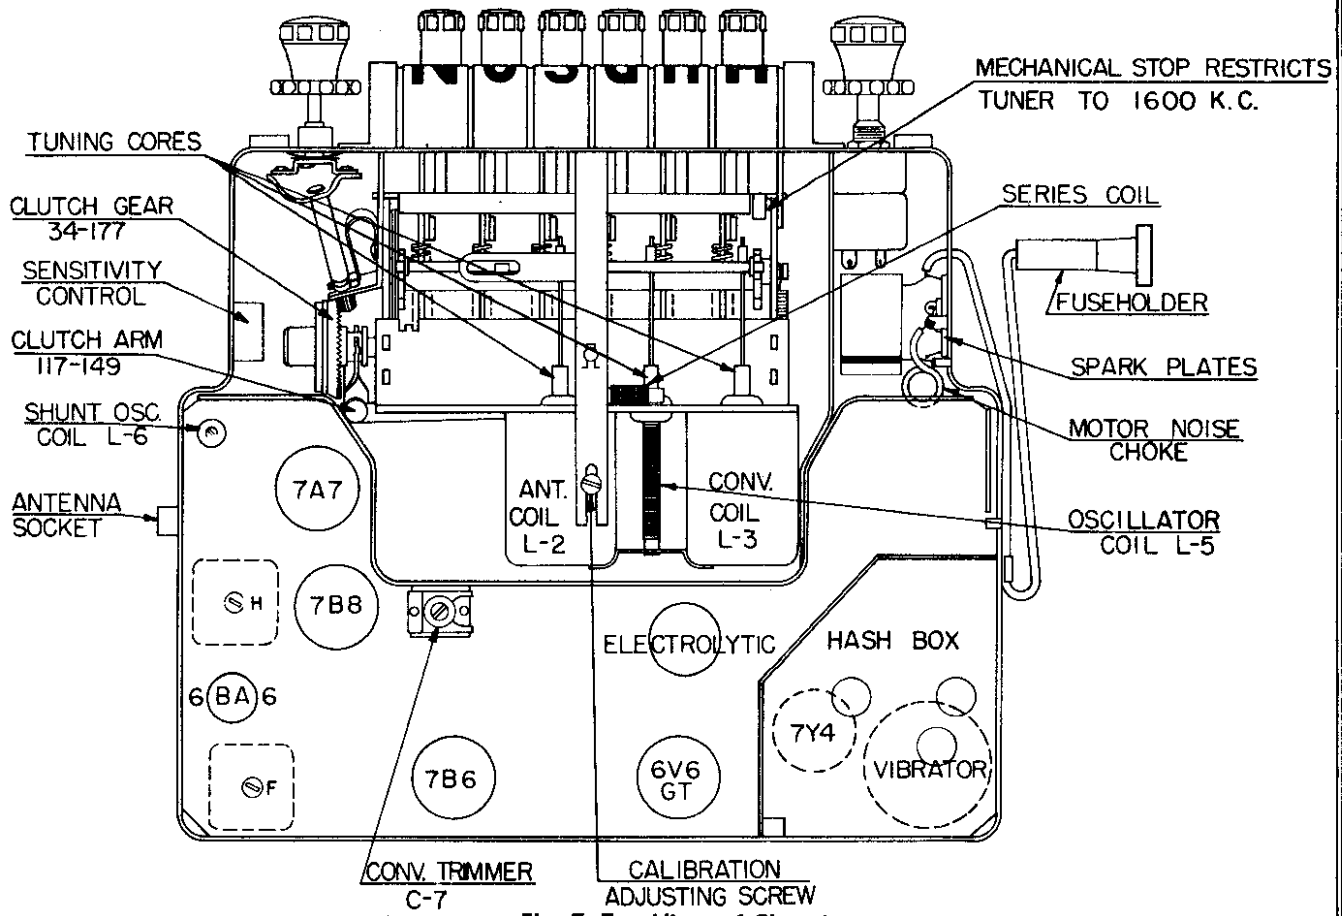
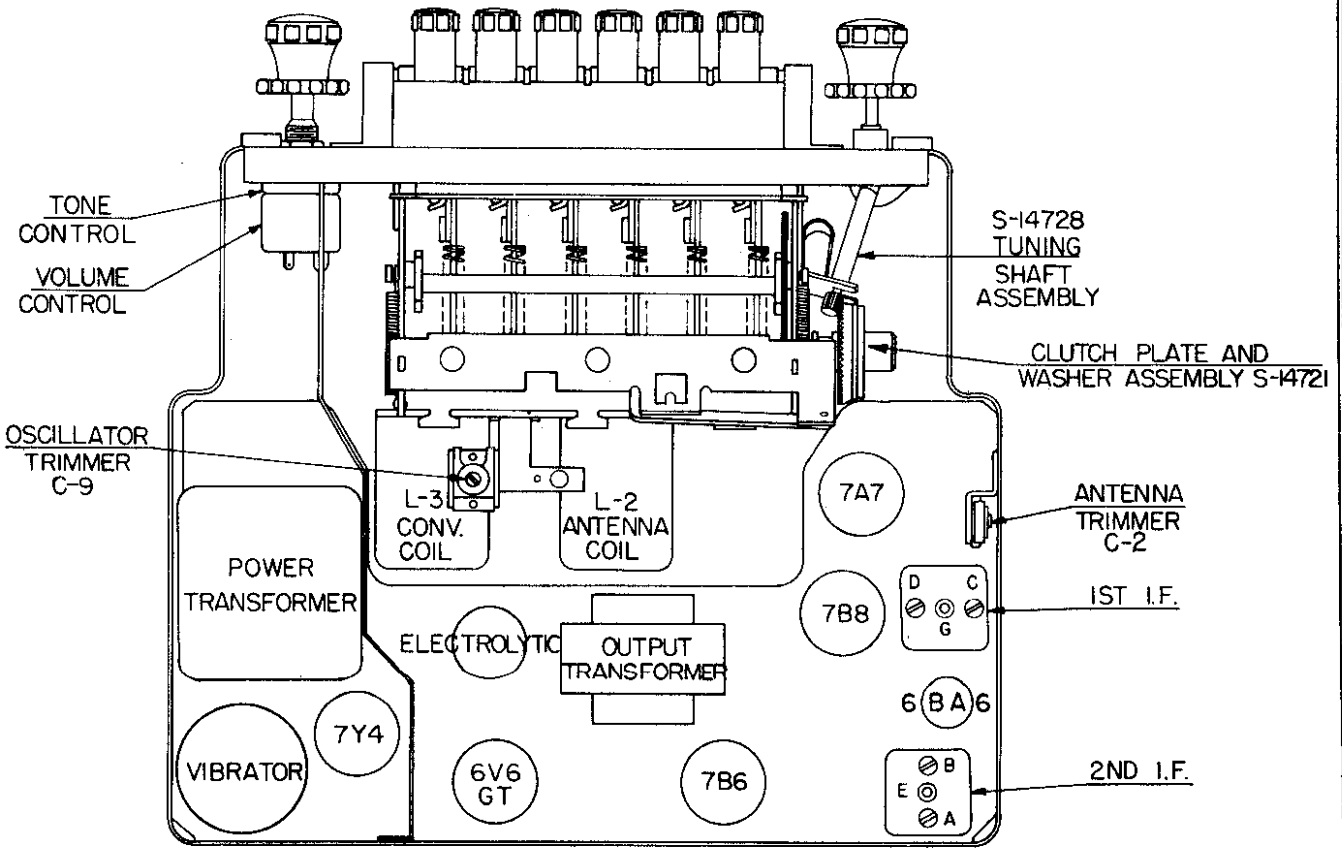

Fig. 7. Top View of Chassis
Fig. 8. Bottom View of Chassis
4. Adjust oscillator trimmer C-9 (Fig. 8) for maximum response.
7. Adjust converter trimmer C-7 (Fig. 8) and antenna trimmer C-2 (Fig. 7) for maximum response.
8. If dial calibration is off after making above adjustments, a correction can be made by tuning eccentric screw at fulcrum of dial pointer. (Fig. 7.)
5. Adjust oscillator trimmer C-9 (Fig. 8) at 1675 Kc.
6. Adjust converter trimmer C-7, and antenna trimmer C-2 (Figs. 7 and 8) for maximum output reading.
9. Adjust oscillator core L-5 (Fig. 8) to scale at 1400 Kc.
10. Adjust the antenna core L-2, and converter core L-3 (Fig. 7) for maximum output reading.
12. "Rock in" shunt oscillator coil L-6 (Fig. 8) for maximum output reading. This should be done only as a last resort. This is the same as rocking in the padder condenser on a general condenser receiver.